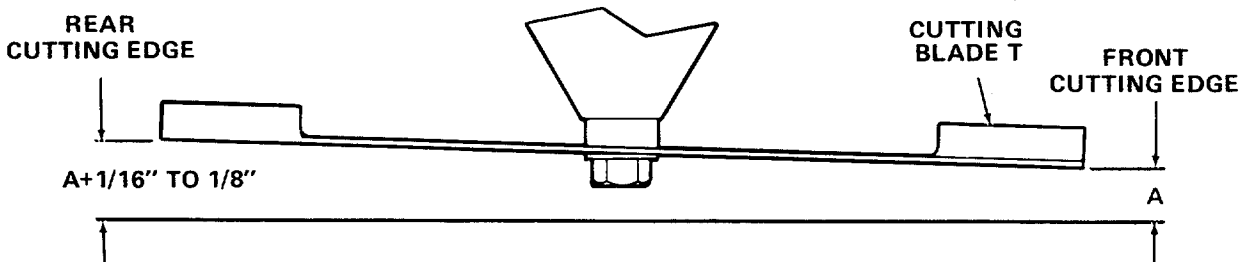

Figure 31
- Refer to Figure 31. Measure and record the distance from the hard, level surface to the CUTTING EDGE at the front and rear of each of the blades. Hereafter, these measurements will be referred to as the cutting-edge-to-ground distances.
- With the lift handle in position number 6, repeat and record the blade measurements described in step 5. Refer to your recorded cutting-edge-to-ground measurements. Each of the two blades must have a downward tilt toward the front of the tractor. A proper tilt is achieved when a blade's rear cutting-edge-to-ground measurement (measurement A+, Figure 31) is 1/16 to 1/8 inch higher than that blade's front cutting-edge-to-ground measurement (measurement A, Figure 31). If a proper tilt does not exist for one or both of the blades, refer to step 12.